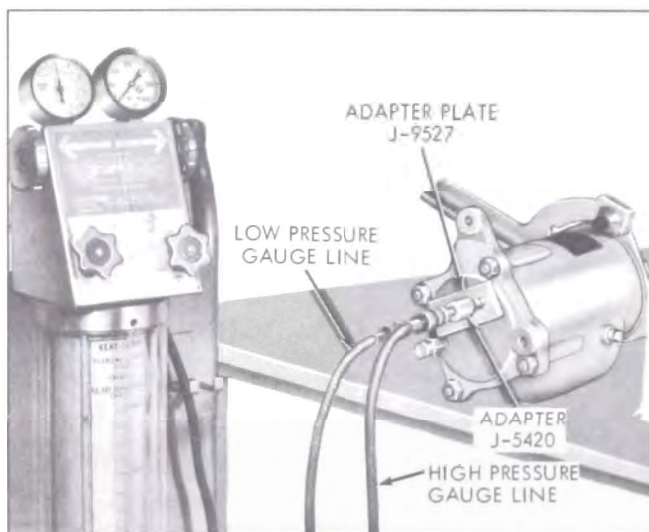

Figure 11-53—Charging Line Adapter Plate
5. Attach charging line adapter plate, J-9527 on rear of compressor and pressurize suction side of compressor with refrigerant 12 at pressure corresponding to room temperature. Rotate compressor shaft several times. See Figure 11-53. Leak test with leak detector and correct any leaks.